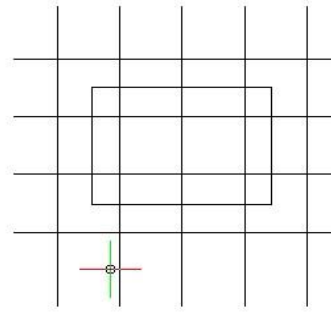

Fig 13
4. Here we select the internal point of the rectangle, you will see that the internal lines of the rectangle are trimmed. (Fig 13)